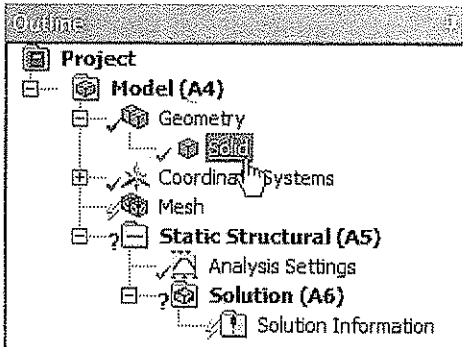

Figure 6-25 Selecting Solid from the Tree Outline
2. Select **Solid** from the Tree Outline, as shown in Figure 6-25; the corresponding options are displayed in the **Details of Solid** window.